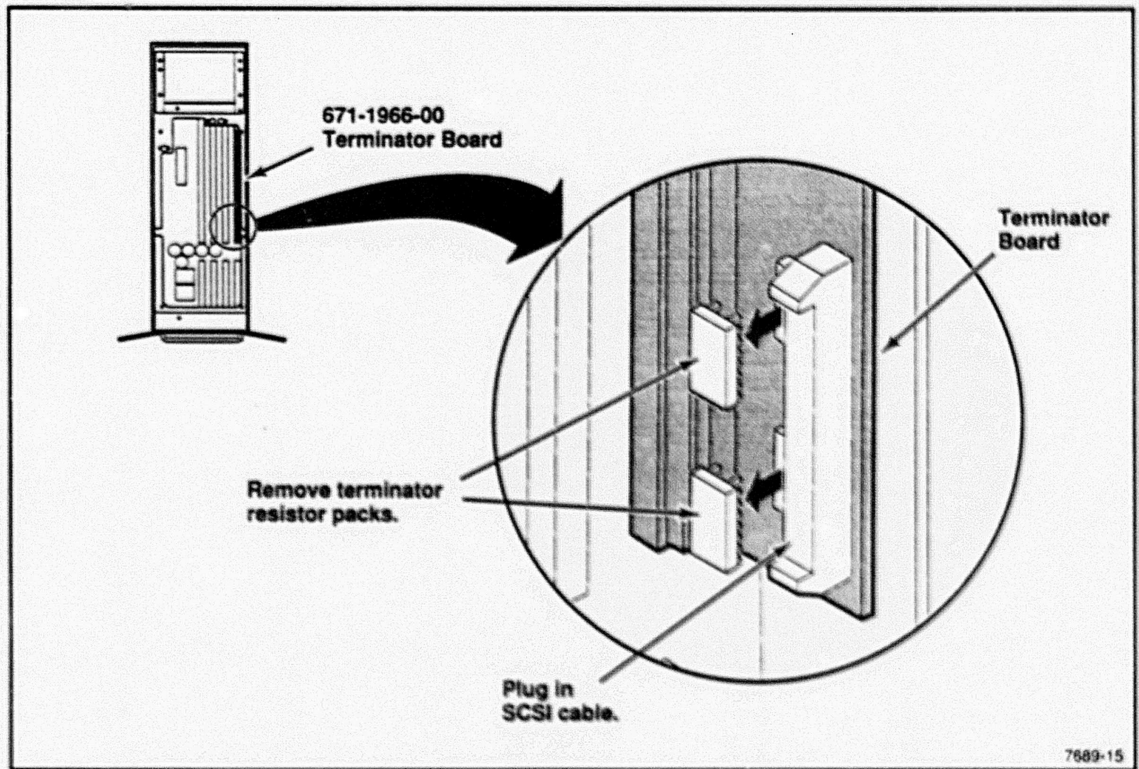

Figure 7. Removing Terminator Resistors From the Terminator Board.
11. Remove the terminator resistors from the terminator board. The terminator board is plugged into the front of the Backplane opposite the I/O board (see Figure 7).
10. Remove the terminator resistors from the terminator board plugged into the front of the Backplane opposite the I/O board (see Figure 7).